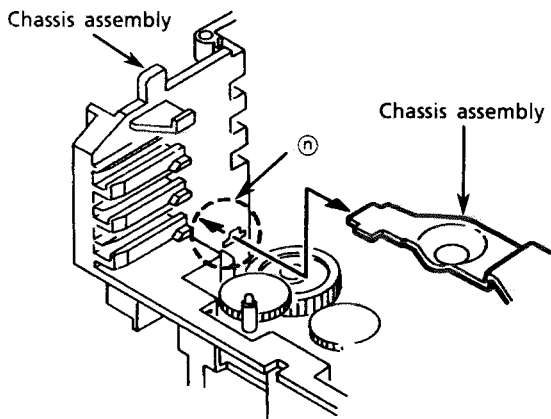

Fig. 37
3. Remove the gear bracket from the chassis ass'y's ③ securing top of the gear bracket. (See Fig. 37.)